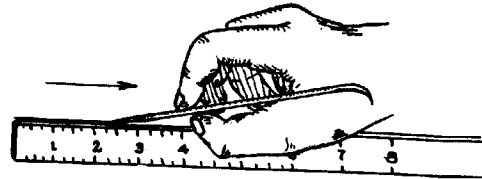

FIG. 4 INCLINING SCRIBER
6. Scribe the line by exerting pressure on the scribe and drawing it along the edge of the rule, inclining the top of the scribe slightly in the direction in which it is to be moved. (Fig.4).